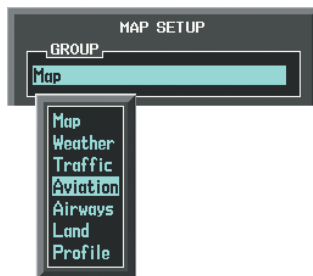

Figure 6-124 Navigation Map Page Setup Menu
- 4) Turn the small **FMS** Knob to select the Aviation Group and press the **ENT** Key (Figure 6-124).